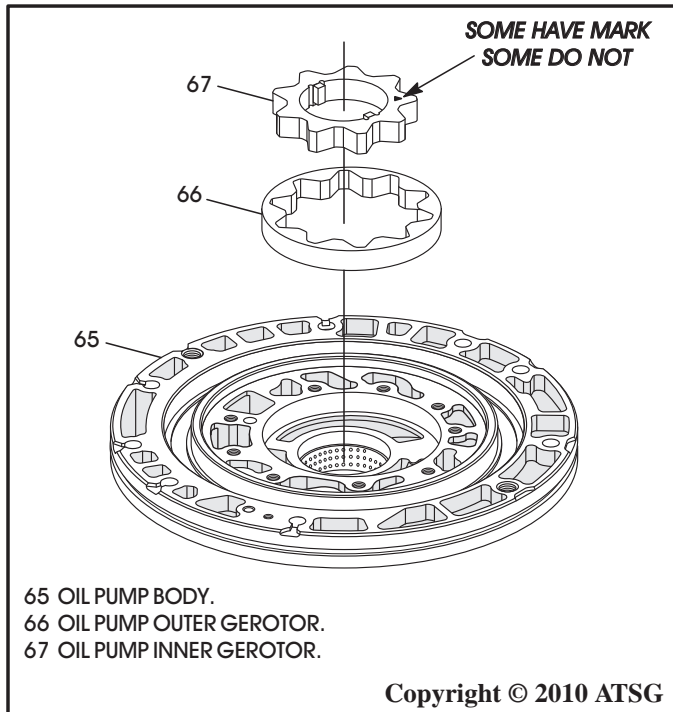

Figure 158
9. Install the outer and inner gerotor into pump body, as shown in Figure 158, with marks facing up, *if they have marks*.